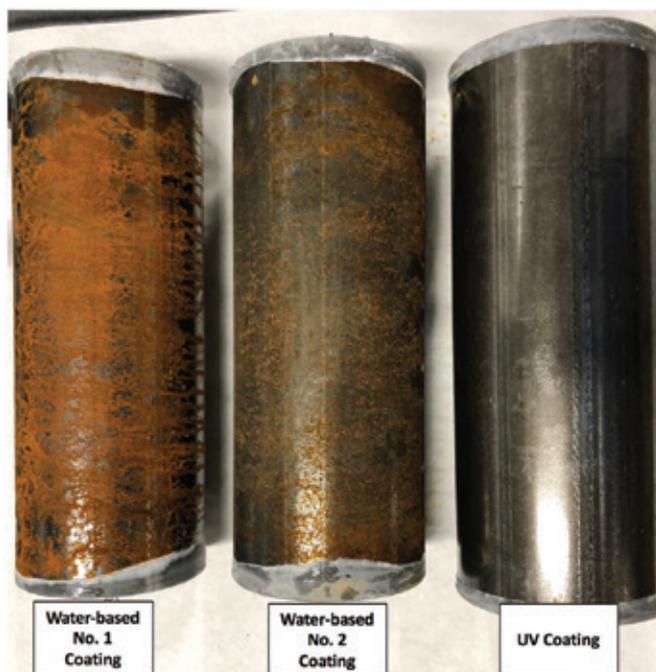

Figure 4: Pipe coating samples – after 24 hours – ASTM B117 salt fog testing cabinet
- Improved corrosion performance (see figures 4 and 5)